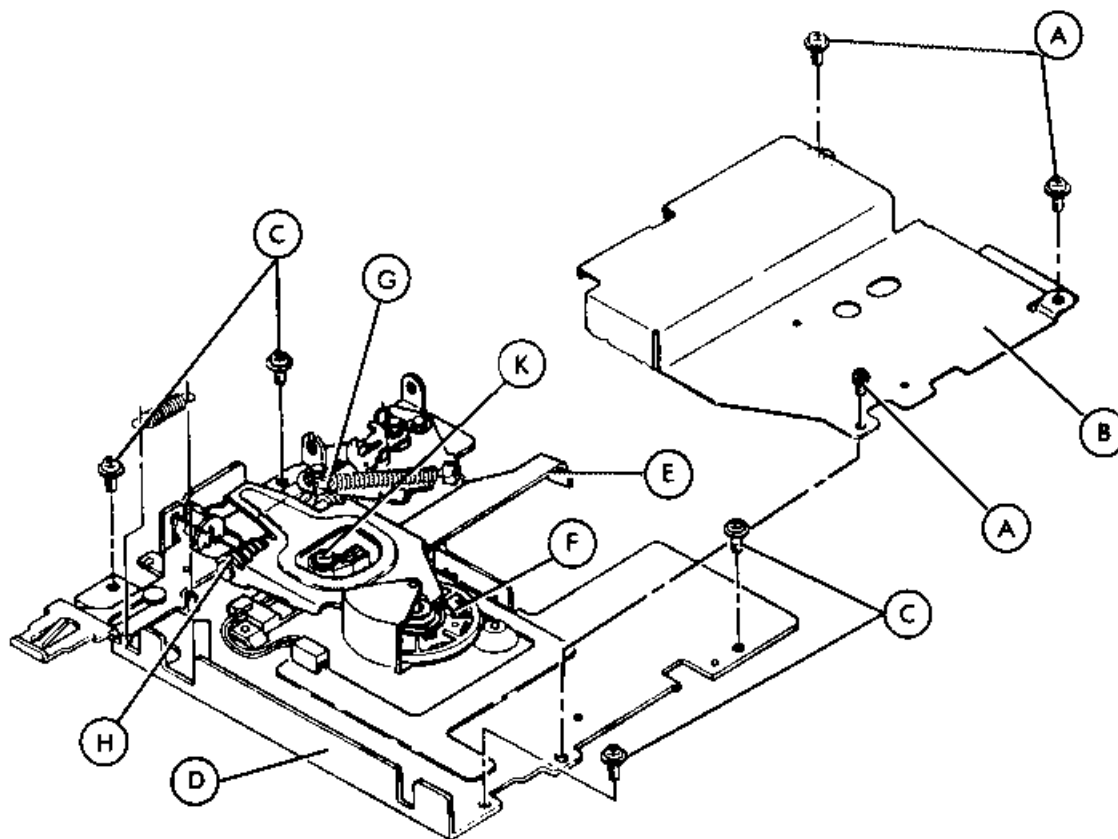

FIGURE 4-10. COLLET, SUBFRAME, AND INDEX SENSOR REMOVAL/REPLACEMENT
1. Secure the front panel (B) to the mechanism frame with two screws (A).
4.3.7 Collet, Subframe, and Index Sensor Removal (Figure 4-10)
4.3.8 Collet, Subframe, and Index Sensor Replacement (Figure 4-10)